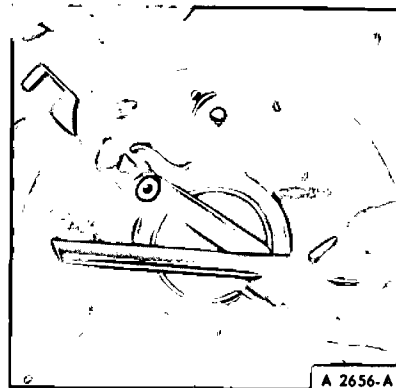

FIG. 75.—Camshaft Front Bearing Measurement
journal. Failure to use the correct expanding collet can cause severe bearing damage. Align the oil holes in the bearings with the oil holes in the cylinder block when the bearings are installed. Be sure the front bearing is installed below the front face of the cylinder block (Fig. 75) to specifications.
3. Position the new camshaft bearings at the bearing bores and press them in place with the tool shown in Fig. 74. Align the oil holes in the cylinder block when the bearings are installed. Be sure the camshaft front bearing is installed below the front face of the cylinder block (Fig. 75) to specifications.